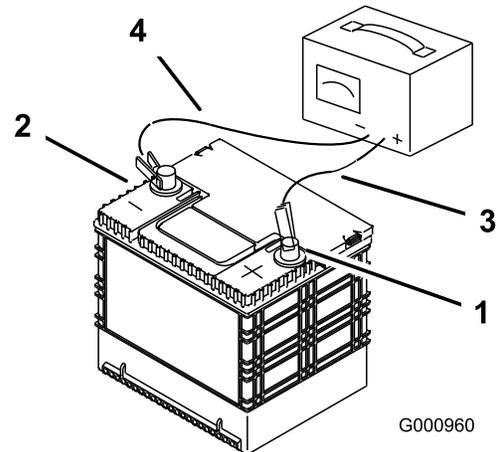

Figure 71
3. When the battery is fully charged, unplug the charger from the electrical outlet, then disconnect the charger leads from the battery posts (Figure 71).